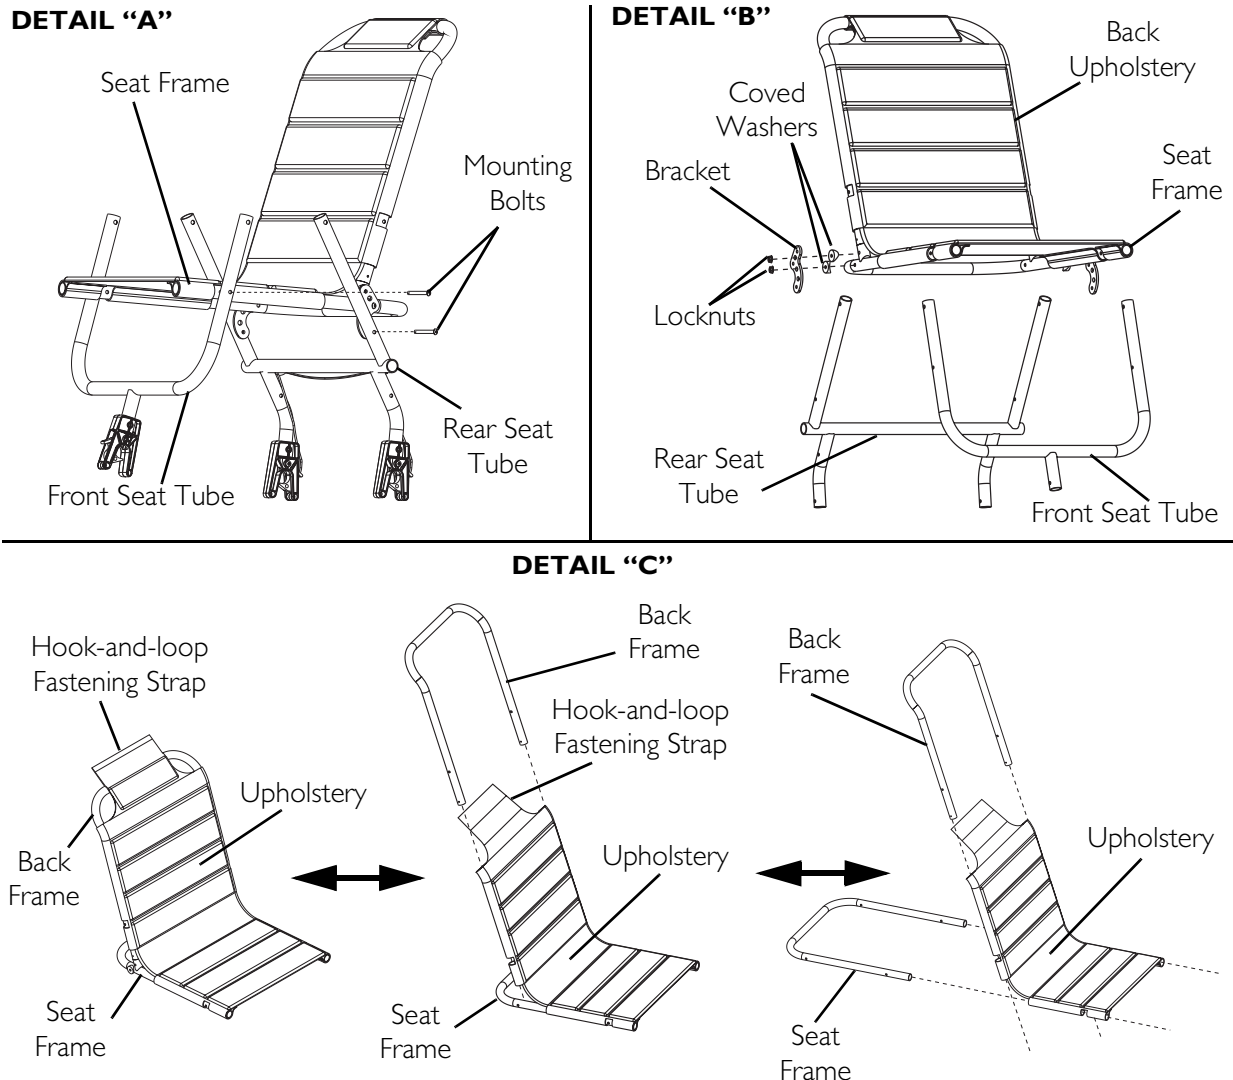

FIGURE 5.4 Removing/Installing Seat Upholstery
NOTE: For this procedure, refer to FIGURE 5.4 on page 35.
4. Remove the two mounting bolts that secure the front seat tube to the seat. Refer to Detail "A" of FIGURE 5.4.
5. Remove the two mounting bolts that secure the rear seat tube to the seat. Refer to Detail "A" of FIGURE 5.4.
6. Remove the four mounting bolts, covered washers, locknuts, and two brackets that secure the back frame to the seat frame. Refer to Detail "B" of FIGURE 5.4.
7. Lift up the hook-and-loop fastening strap and pull the back frame out of the upholstery. Refer to Detail "C" of FIGURE 5.4.
8. Pull the seat frame out of the upholstery. Refer to Detail "C" of FIGURE 5.4.
1. Insert the seat frame into the upholstery. Refer to Detail "C" of FIGURE 5.4.
2. Insert the back frame into the upholstery and secure the hook-and-loop fastening strap. Refer to Detail "C" of FIGURE 5.4.
3. Secure the back frame to the seat frame using the two brackets, and four mounting bolts, coved washers, and locknuts. Refer to Detail "B" of FIGURE 5.4.
4. Mount the rear seat tube to the seat frame with the two mounting bolts. Refer to Detail "A" of FIGURE 5.4.
5. Mount the front seat tube to the seat frame with the two mounting bolts. Refer to Detail "A" of FIGURE 5.4.